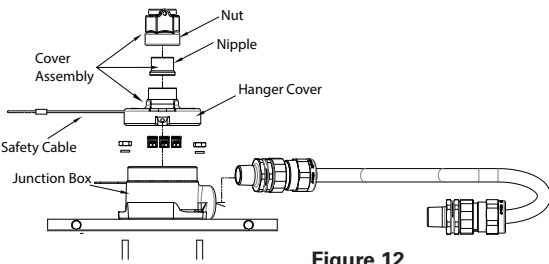

Figure 12
10. Remove the cover assembly from the junction box (see Figure 12).
14. With the nut fully tightened screw the cover assembly onto the conduit support until the conduit and nipple are fully engaged (See Figure 12).